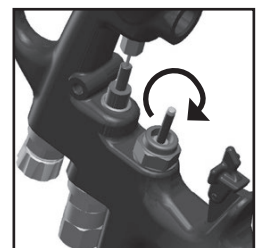

Fig. 24
10. Tighten air valve assembly using fingers first, and then tighten with 14mm wrench. Torque from 18 to 22 ft.-lbs. (See fig 24)